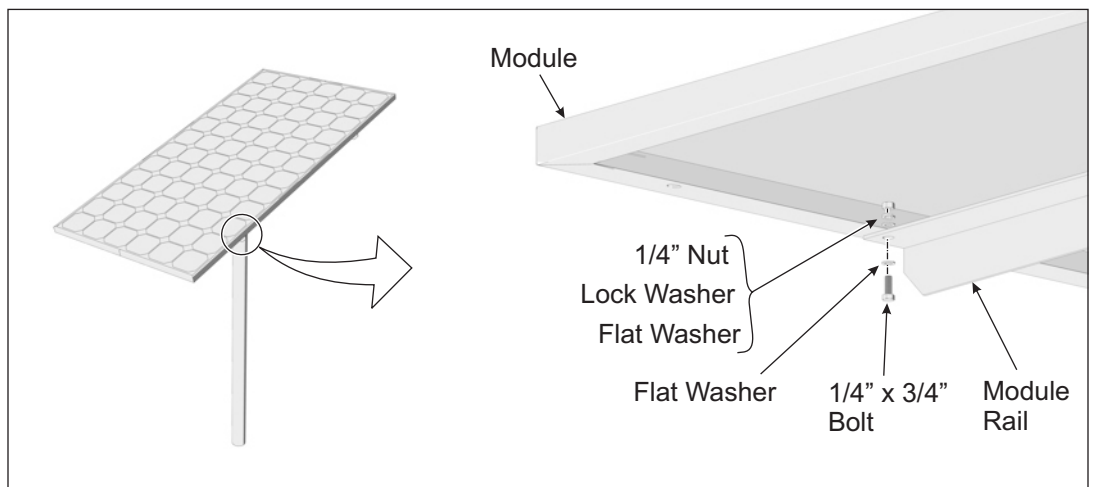

Figure 4-1: Installing PV Modules to Module Rails
- A. Place the PV Module on the Module Rails. Align the mounting holes and secure with 1/4 inch x 3/4 inch bolts and hardware. Each Module has four attachment points. Finger-tighten for now. (See Figure 4-1)